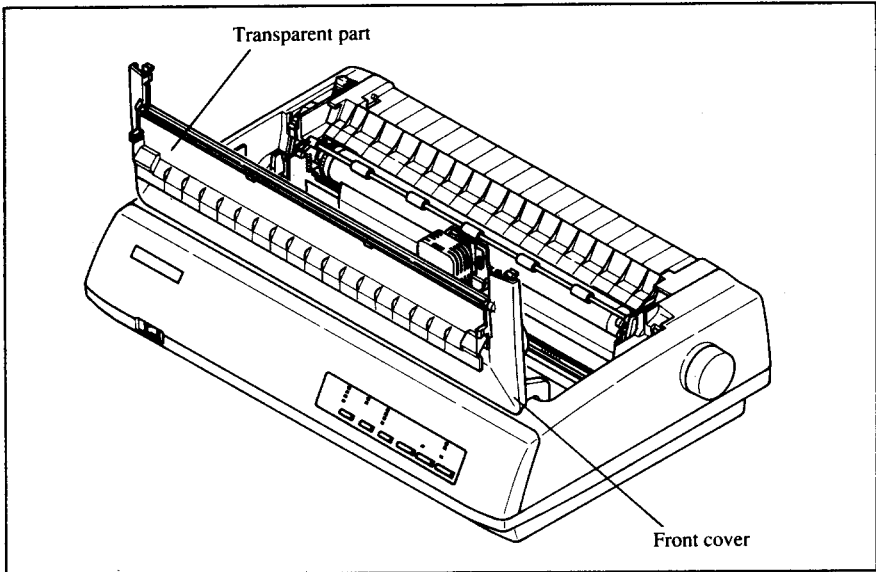

Figure 3-1. Open the front cover, and swing down the transparent part.
1. Open the front cover by lifting up the back using the two grips on either side, then swing down the transparent part (see Figure 3-1).